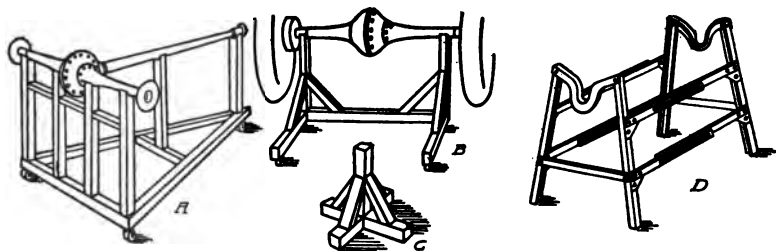

Fig. 47. Types of Handy Stands for Rear-Axle Repair Work
**Workstand Equipment.** Next to raising the rear axle, the most important thing is to support it in its elevated position. To leave it on jacks is not satisfactory, for they will not raise the frame high enough, and furthermore, they are shaky and may easily let the whole rear end fall over, doing considerable damage. With the overhead hoist, the chains or ropes are in the way. So a stand is both a necessity and a convenience. In Fig. 47 several types are shown. A is essentially a workstand, intended to hold the axle and part of the propeller shaft while doing repair work thereon. It consists of a floor unit or base, built in the form of an A, with six uprights